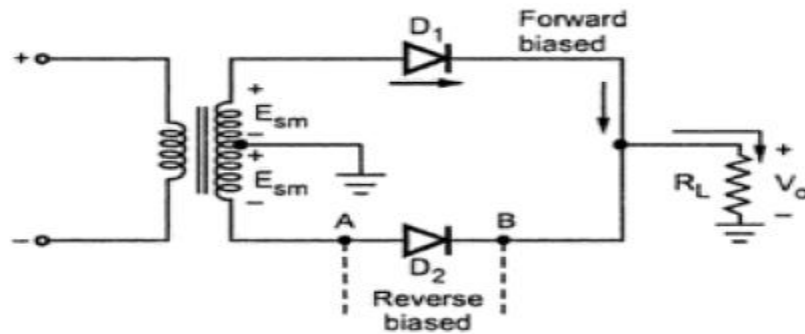

Fig. 1.29 PIV of Full wave rectifier
- Figure 1.29 shows the circuit diagram of full wave rectifier.